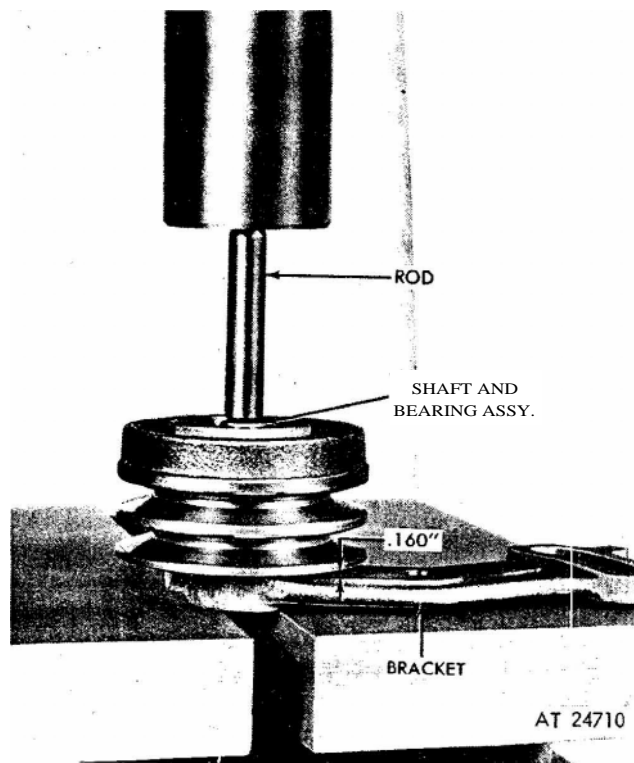

Figure 4. Installing shaft and bearing assembly and pulley in bracket
2. With a short rod, apply pressure on the shaft only (fig. 4), and press the shaft and bearing assembly with the pulley into the idler pulley bracket. The distance between the outer edge of the pulley and the bracket must be .160".